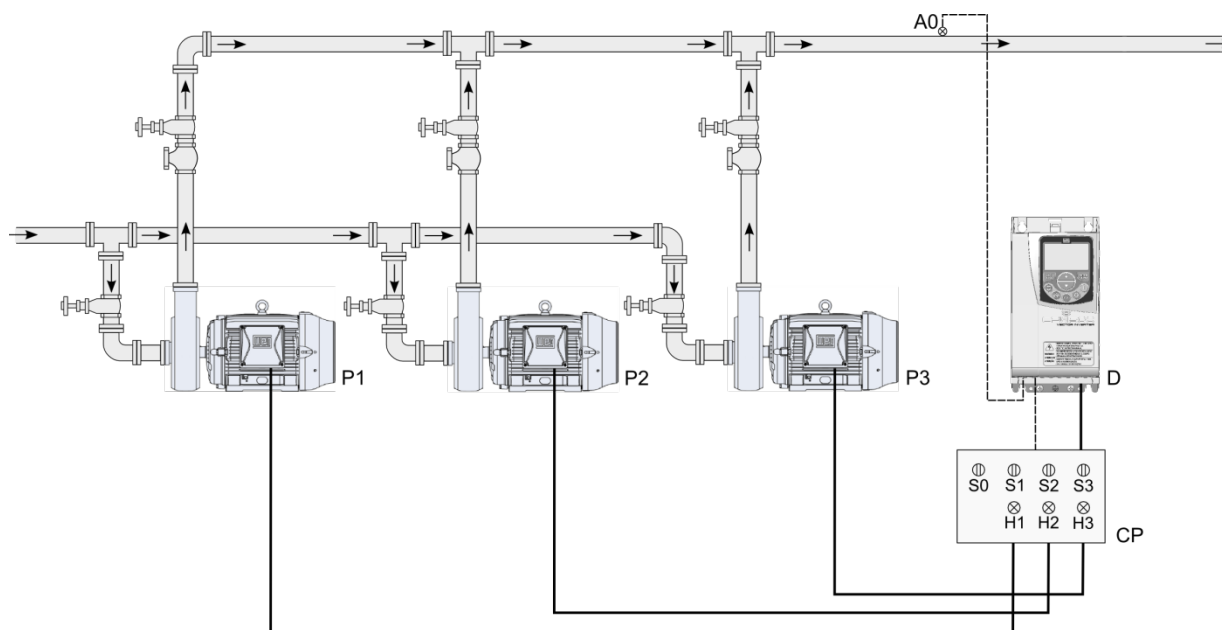

Figure 2.20 – Pump Genius Multipump application with floating control and three pumps in parallel
The figure 2.20 presents a typical system with three pumps and control setpoint via HMI basically composed of:
The signals H1, H2 and H3 are not necessary for the operation of the Pump Genius Multipump with floating control, three pumps in parallel and control setpoint via HMI, because they only serve to indicate the operating condition of the pumps on the command panel (CP). In the figure 2.20, the signals H1, H2 and H3 come from auxiliary contacts of contactors K1, K1.1, K2, K2.1, K3 and K3.1 which start the pumps 1, 2 and 3.